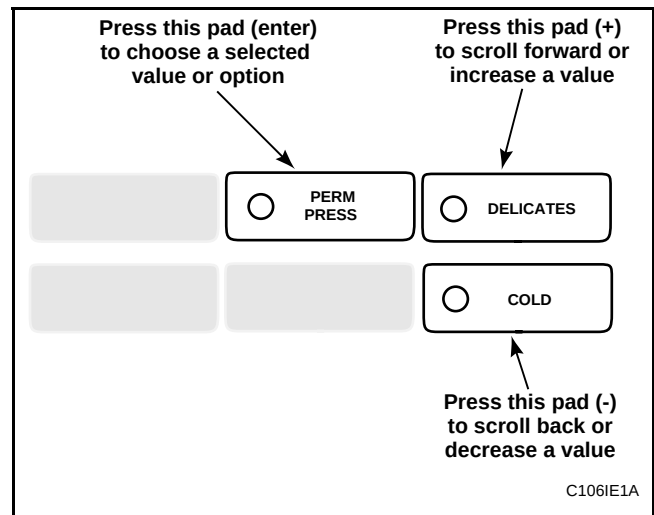

Figure 75
5. Press the DELICATES (+) or the COLD (-) keypad to increase or decrease the current number to the desired number selected from Chart 3. See **Figure 75**.